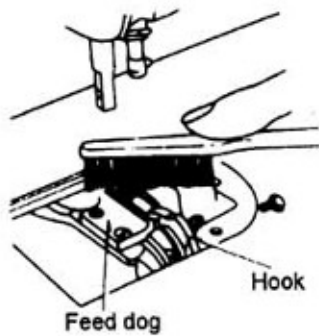
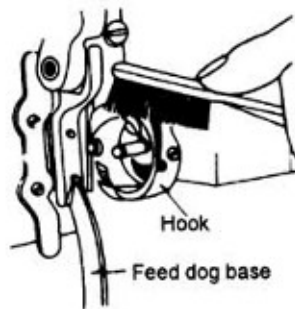
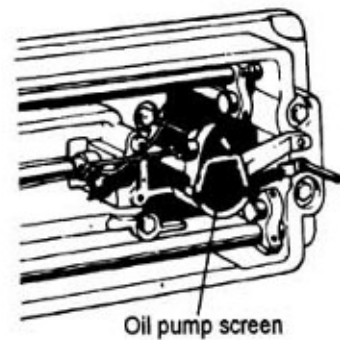

Fig. 9
Fig. 10
Fig. 11
9. Periodical cleaning (Fig.9, Fig.10, Fig.11):